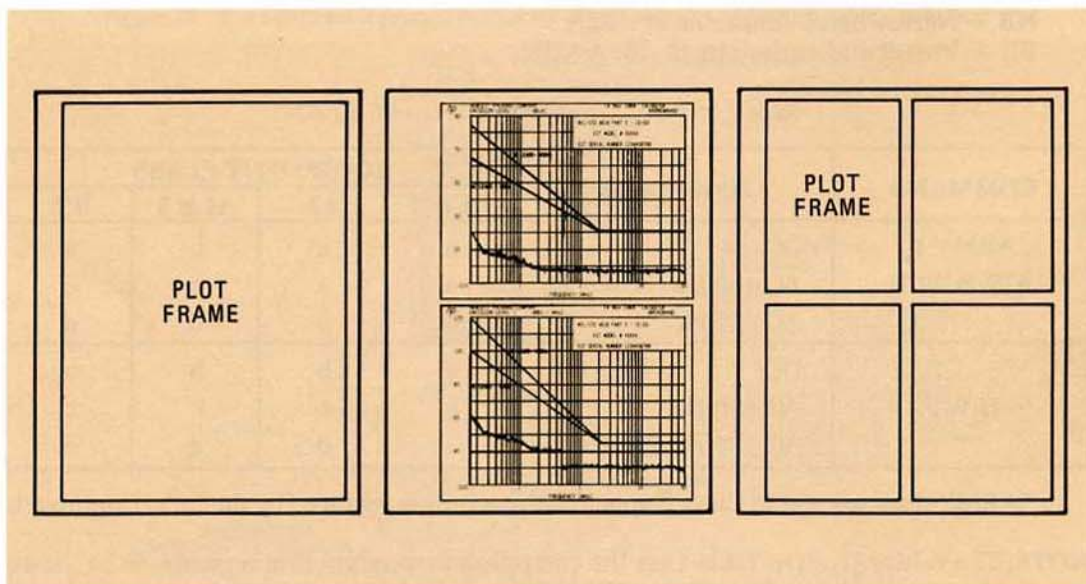

Figure 12. Three Different Plot Formats Available
The PLOT function duplicates on a system plotter the spectrum analyzer display. The operator has a choice of three formats: one, two, or four plots per page (see Figure 12). Narrowband and Broadband data or comparative data plots can be drawn on the same paper. The operator selects the frame for plotting on the multiple plot formats. Up to six (6) different pen colors for drawing each part of the display are available with the PENS function. Different colors may then be chosen for the graticule, the limit line, the data, and the annotation.